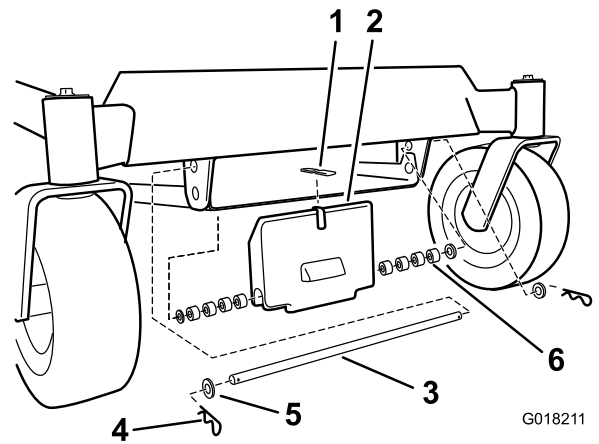
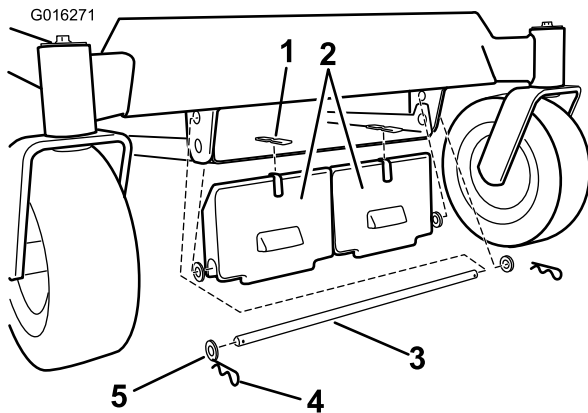

Figure 3
Figure 2
3. Install an adhesive bumper to the weight (Figure 2 and Figure 3).
5. Secure the weight with a rod, four washers, and two hair pins as shown in Figure 2. Use the 8 spacers if installing just one front weight as shown in Figure 3.